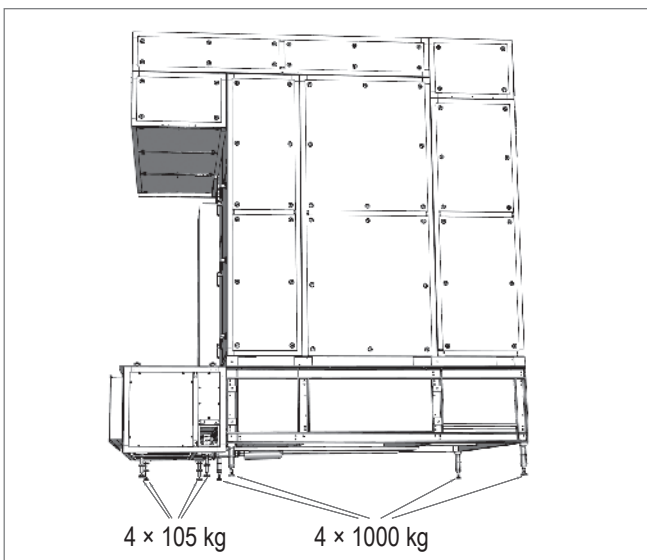

Fig. D1: Load distribution
- Ensure that the installation surface is of sufficient load-bearing capacity. The weight of the unit is distributed over the adjustable feet (see Fig. D1).